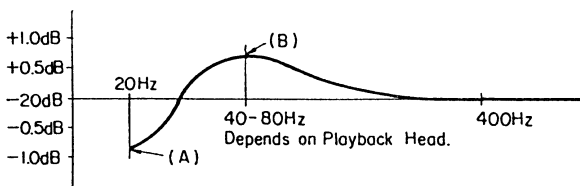

Fig. 6.3.7
In general, the frequency response at low shows the response in Fig. 6.3.7. When the level at 400 Hz is considered to be 0 dB, the level at 20 Hz shows the minimum value (A) and the peak of the waveform produced by contour effect shows the maximum value (B). The peak of the waveform appears around the range of 40 – 80 Hz depending upon the playback head.
- Check the level difference between the level at 20 Hz (A) and the peak level (B) of the waveform. If the difference is greater than 1.5 dB, perform the following adjustment 1).
Adjust so that the level difference between (A) and (B) in Fig. 6.3.7 becomes less than 1.5 dB.